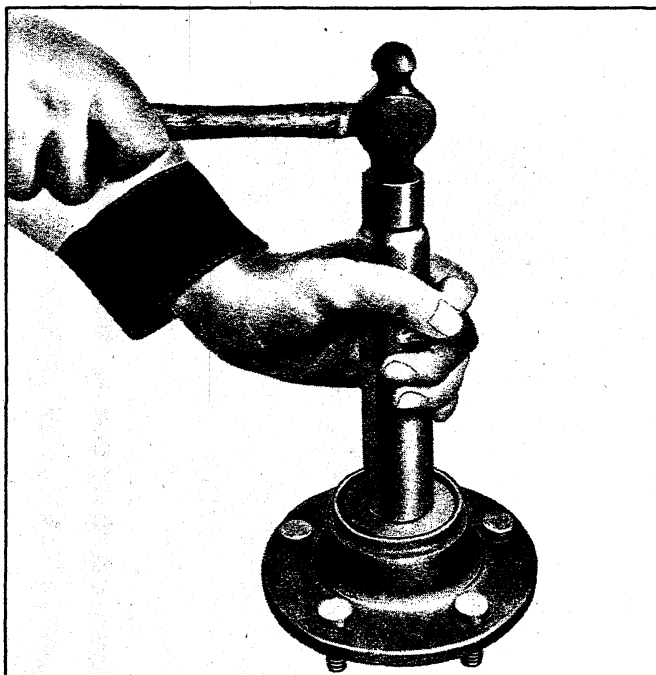

Fig. 12 - Installing Front Hub Inner Bearing
4. Install new bearing cup in hub using Tool J-8849 on the outer and Tool J-8850 on the inner cup (fig. 12). Use Driver Handle J-8092 with the installers. Make sure that the bearing cups are not cocked and are fully seated against shoulder in hub.